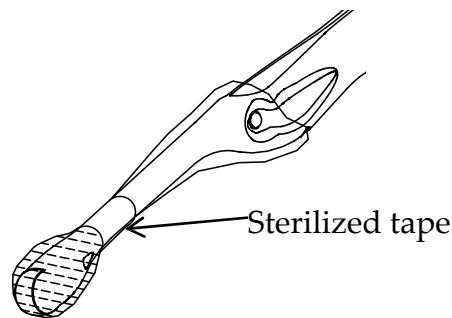

Fig. 5 Fix by sterile adhesive tape
- 6) Fix the probe cover with sterile adhesive tape as shown in Fig. 5. Visually inspect the probe cover for any hole or tears.